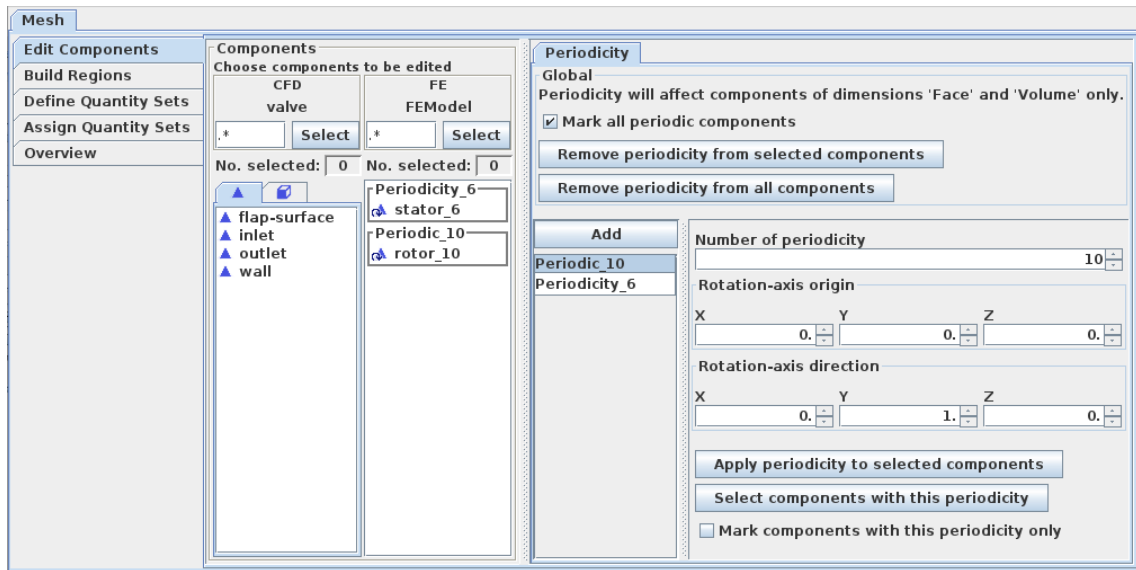

Figure 18: Marked periodic components
And secondly the periodicity panel provides options for marking components. These lead to a visual representation of the periodicity name in the components lists (see Figure 18):
- Mark all periodic components marks all components assigned any periodicity. This option can be checked in the global part (1) of the periodicity panel as shown in Figure 18.